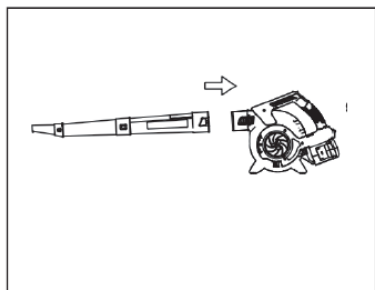

Fig.3
- Now push the blowpipe (5) on to the blowing aperture of the motor housing (1) until the blowpipe (5) latches into place.(Fig. 3)
- Dismantle the blowpipe (5) by pressing the locking button (6) and pulling off the blowpipe